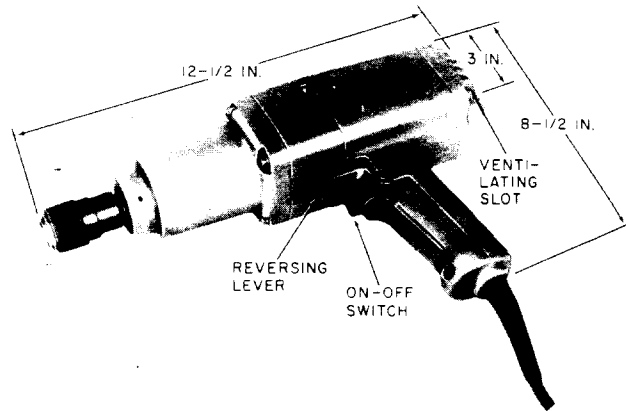

Fig. 3—C Impact Wrench With Reversing Switch Over Trigger
2.03 The C impact wrench (Fig. 3) is a double insulated electric tool having a housing and handle made of high impact plastic. ♦The gear case may be made of metal. ♦It is a commercial, 115 volt ac-dc, reversible, heavy duty, 1/2-inch capacity electric wrench that develops about 288 foot/pounds of torque. It is equipped with a nonlocking trigger, yellow jacketed 2-conductor cord approximately 6 feet long, and a 7/16-inch hexagonal quick-change chuck.